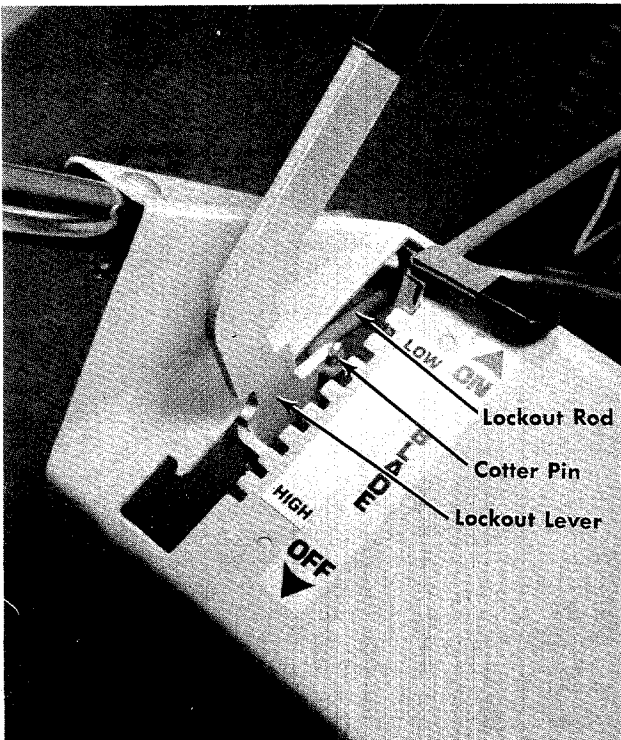

FIGURE 6
12. Place the hooked end of the lockout rod into hole in the lockout lever and secure it with cotter pin. See figure 6.
Put the lockout lever in the OFF position. If the lockout lever cannot be pulled back into the OFF position, remove the cotter pin and unscrew the lockout rod. Reassemble and test. See figures 6 and 12.